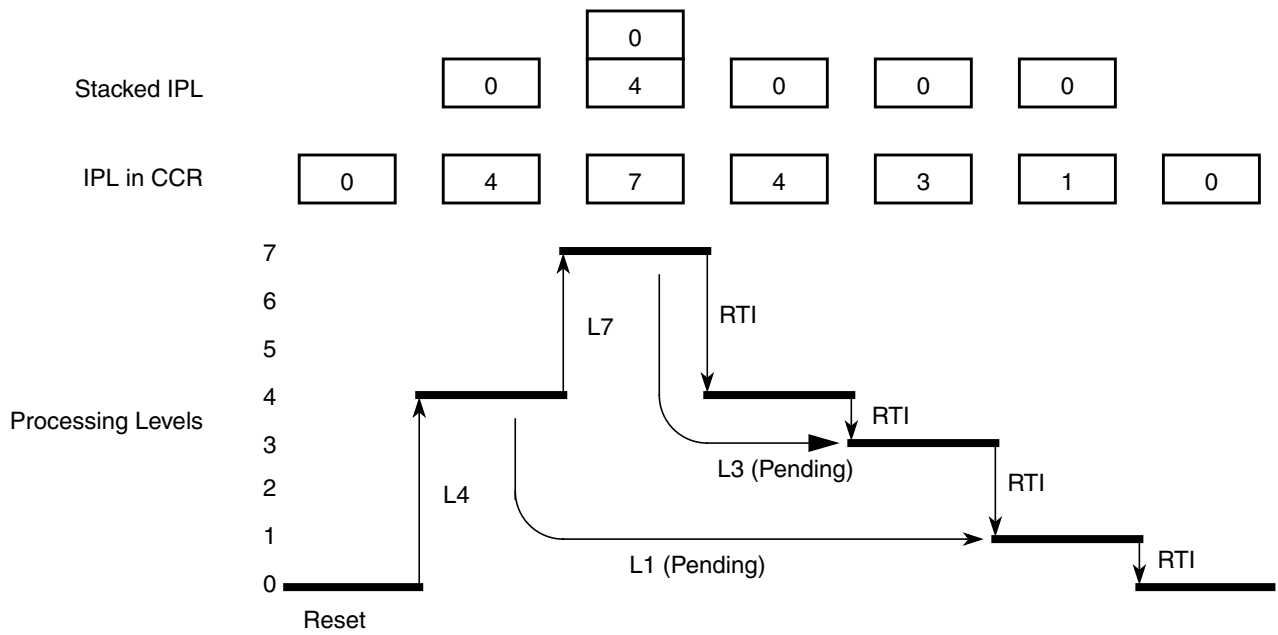

Figure 6-14. Interrupt Processing Example
- I bit maskable interrupt requests can be interrupted by an interrupt request with a higher priority, so that there can be up to seven nested I bit maskable interrupt requests at a time (refer to Figure 6-14 for an example using up to three nested interrupt requests).